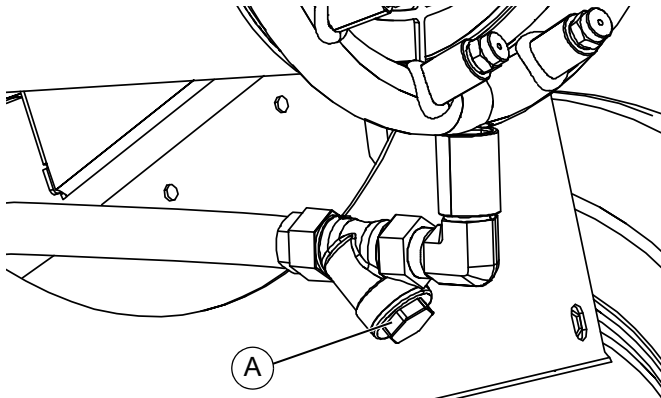

Figure 4-2. Cleaning Inlet Filter
1. **Figure 4-2.** Remove inlet filter plug (A).